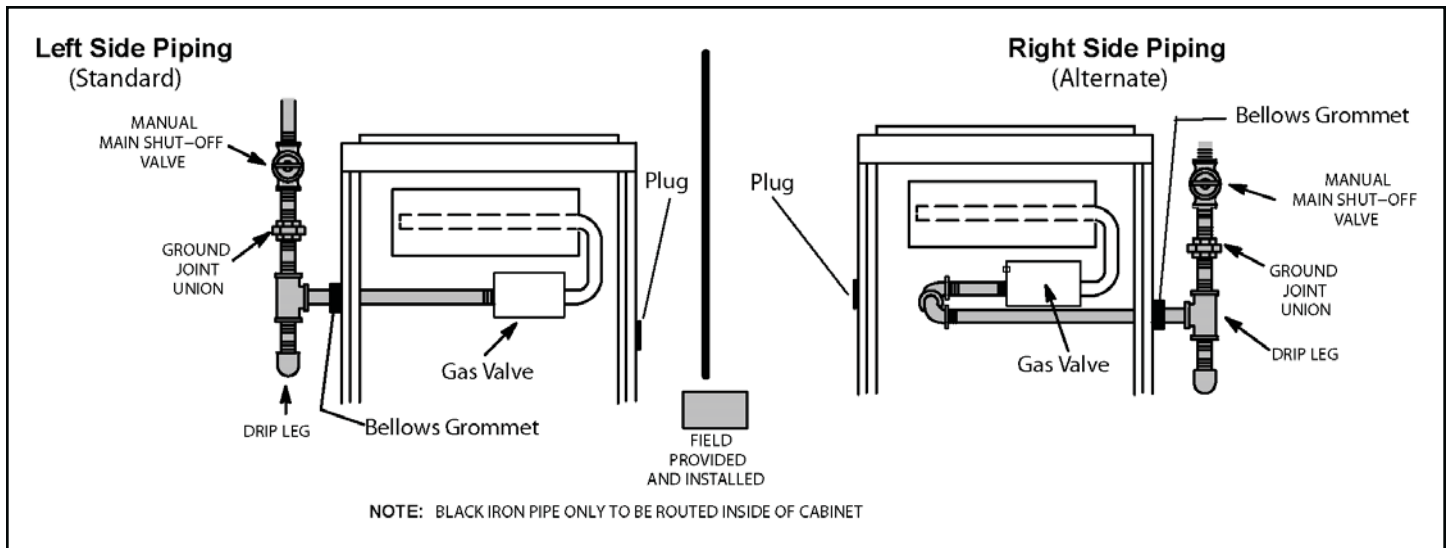
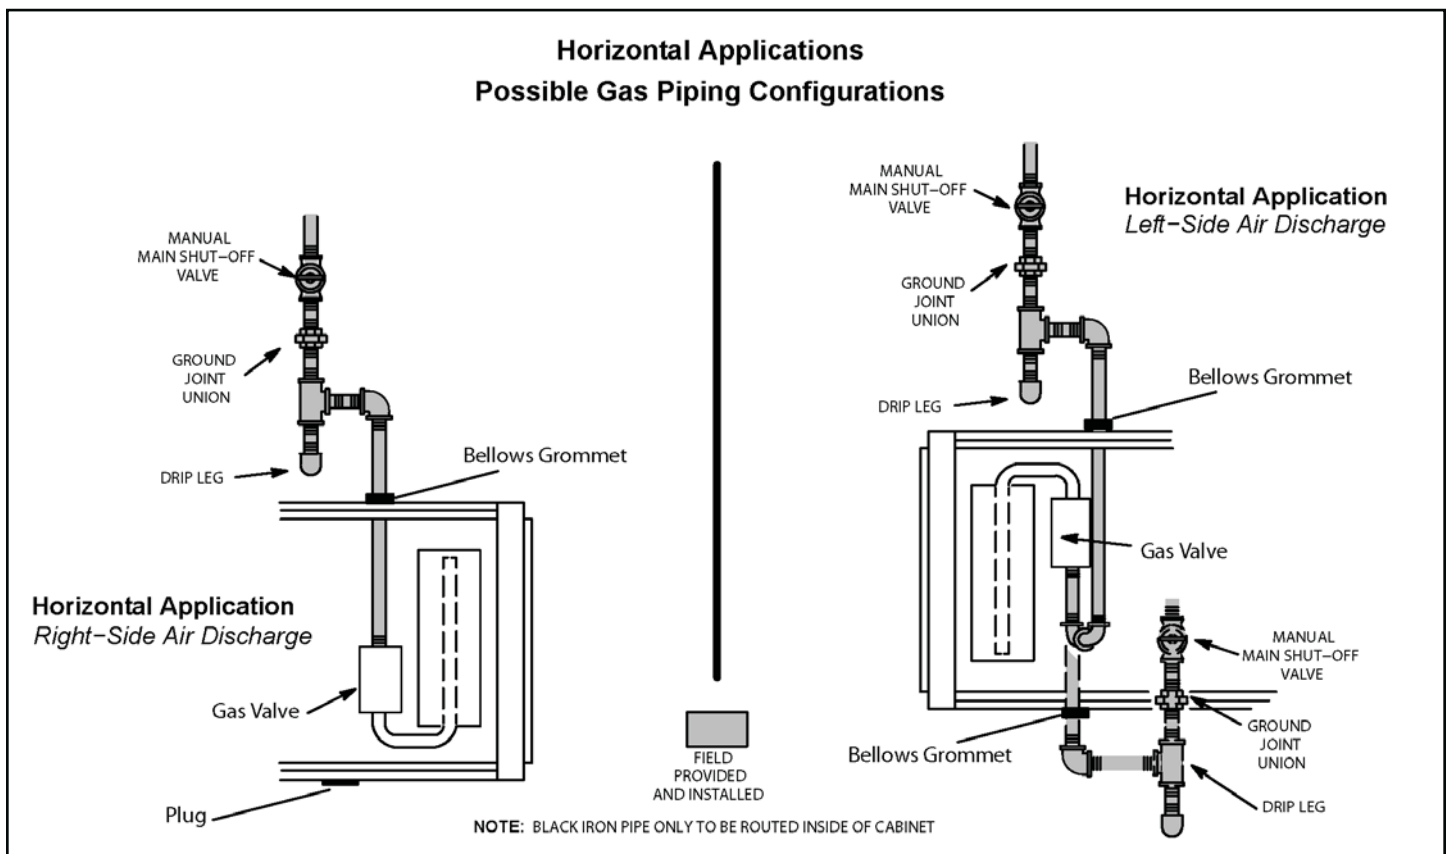

Figure 58. Gas Piping Upflow Applications
Figure 59. Gas Piping Horizontal Applications
1. Gas piping may be routed into the unit through either the left or right hand side. Supply piping enters into the gas valve from the side of the valve as shown in Figure 58. Move Bellows grommet to side which gas line enters. Ensure opposite gas line hole is plugged with supplied plug.
3. Gas piping must not run in or through air ducts, clothes chutes, chimneys or gas vents, dumb waiters or elevator shafts. Center gas line through piping hole. Gas line should not touch side of unit. See Figure 58 and Figure 59.